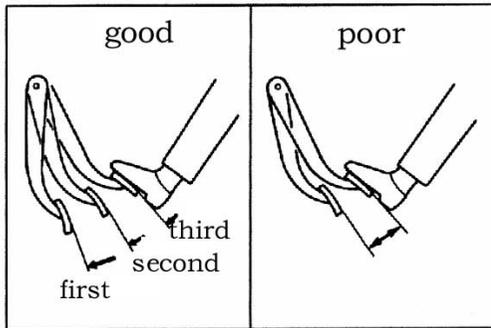

Fig. 16-6
- (1) Inspection model without test (see Fig. 16-6~16-8)
- ① Simple checking of the brake booster operation ,carry out as the following test:
- ② The booster performance can be determined as good if all three tests are okay. If one of the above three test is not okay, the check valve, vacuum hose, or booster may be defective.
- (2) Inspection with simple test method
- ① Before inspection ,check valve operation.
- ② Remove the vacuum hose from the booster .Connect the vacuumeter with the booster, connect the vacuumeter and the booster with the vacuum hose without the valve, connection